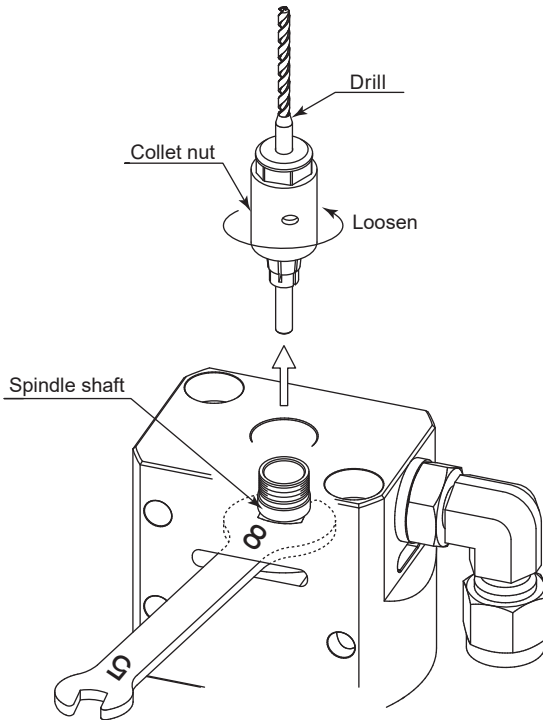

Fig. 8
- (1) Loosen the collet nut with the cutting drill installed as described in section "9. CHANGING THE DRILL". Keep turning the collet nut until it comes out of the spindle shaft together with the cutting drill, and then remove the cutting drill from the collet. (Fig. 8)